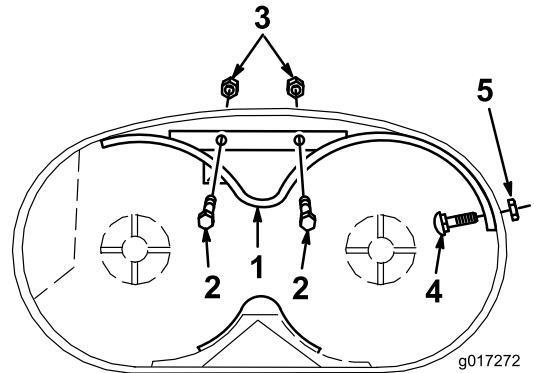

Figure 2
6. Secure the side of front baffle with a carriage bolt (5/16 x 3/4 inch) and a lock nut (5/16 inch) (Figure 2).